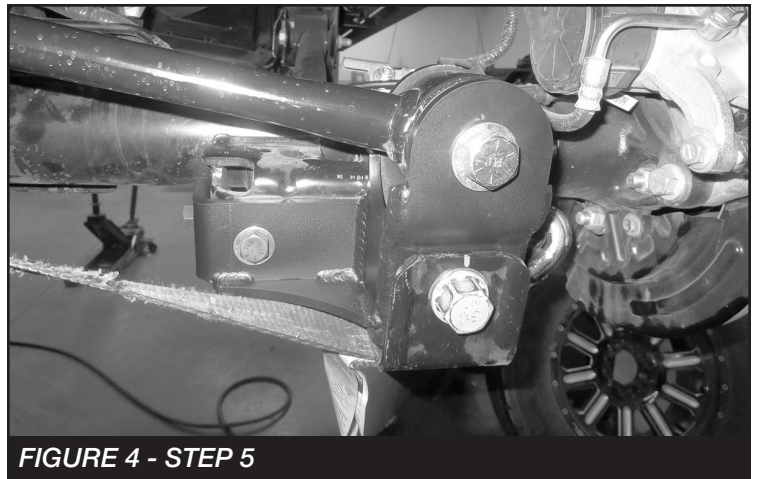

FIGURE 4 - STEP 5
5. Install the track bar to the new Fabtech bracket using the supplied 5/8" hardware. Torque to 170 ft-lbs. **SEE FIGURE 4**